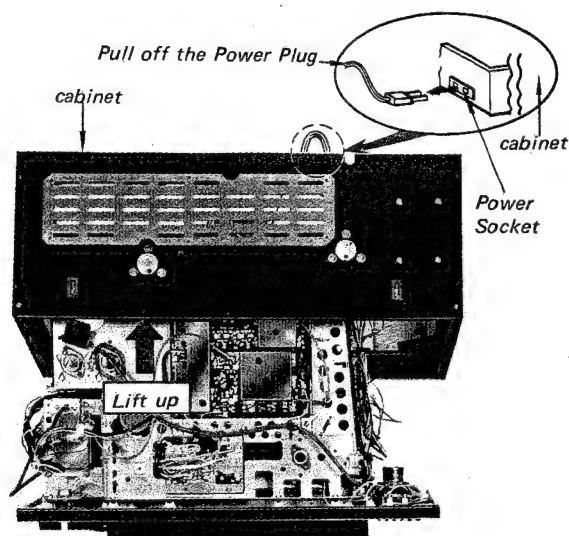

Fig. 2-6.
4. Pull off the Power Plug, and then pull the Cabinet out as shown in Fig. 2-6.